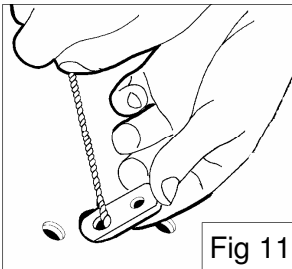
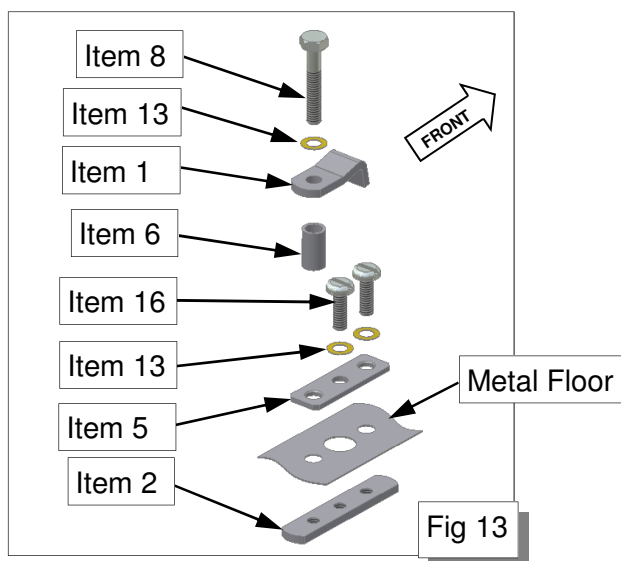

Fig 11
Fig 13
1. Insert installation tool (Item 15) into the centre hole of the long mounting plate (item 2). See Fig 11.
2. Whilst holding the installation tool, insert the mounting plate through the centre 22mm hole previously drilled. See Fig 11
4. Using pan head screws (item 16) with crinkle washers (item 13) under heads, secure the assembly through the outer holes.
6. Relocate rearward pan head screw to centre hole and tighten (Fig. 13).